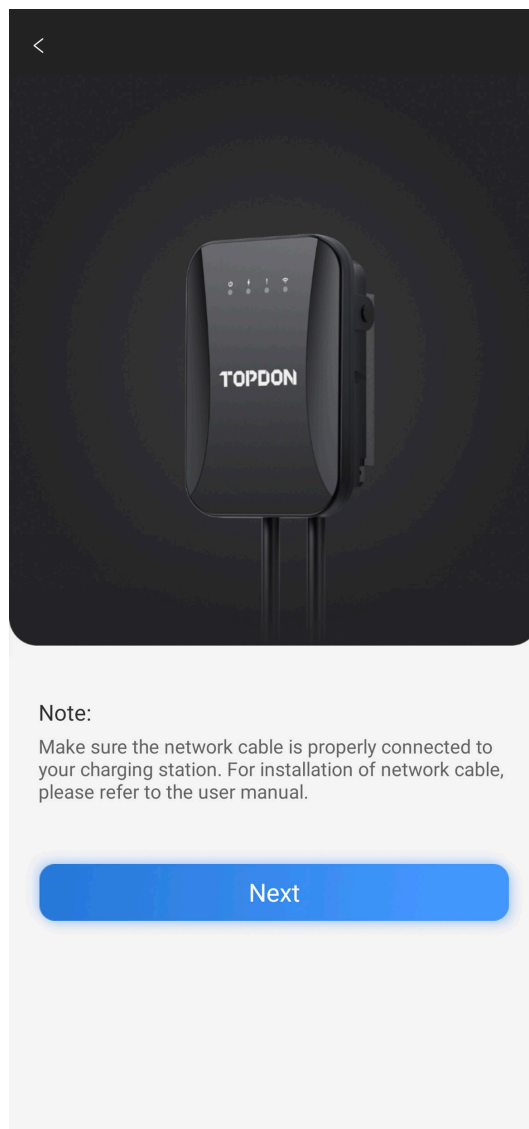

Fig.6.2.4
4. Please read the note carefully and tap Next. (See Figure 6.2.4)